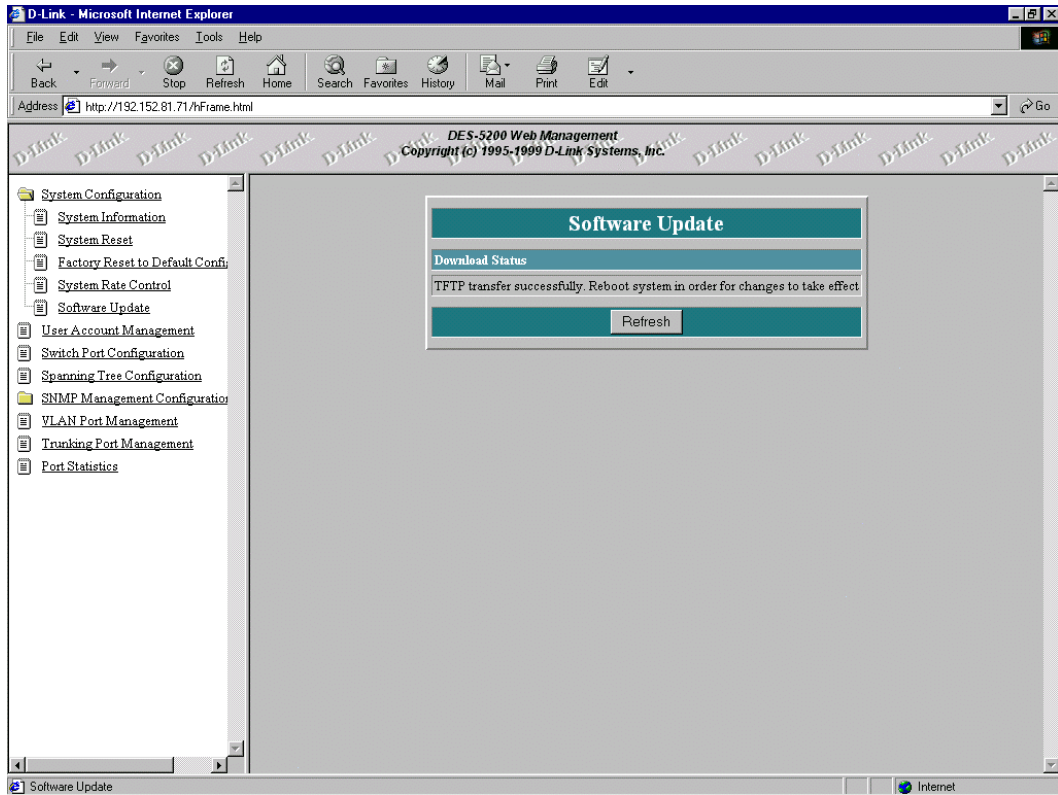

Figure 61: Download Successful
4. When the transfer is complete, reset the DES-5200 for the changes to take effect, see Figure 61.